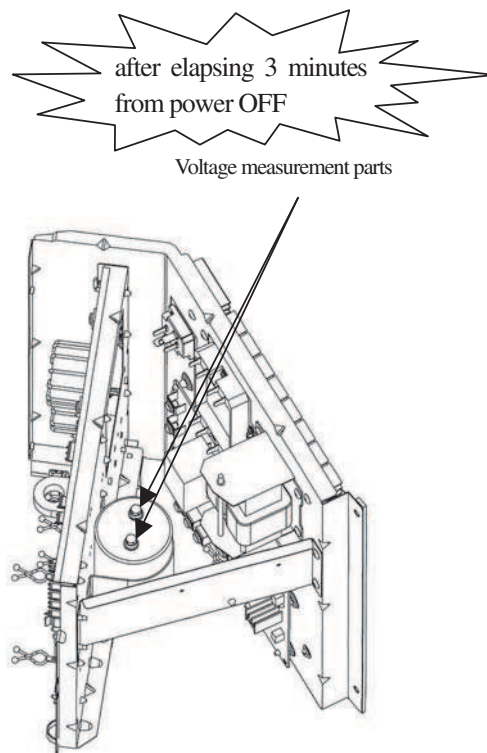

Fig.2 Position of capacitor
(**Be sure to measure the voltage (DC) of two places** (1.Resistor on PCB at the front of controller 2.Both capacitor terminals located in back of controller), and **check that the voltage is discharged sufficiently.** (Refer to Fig.2))